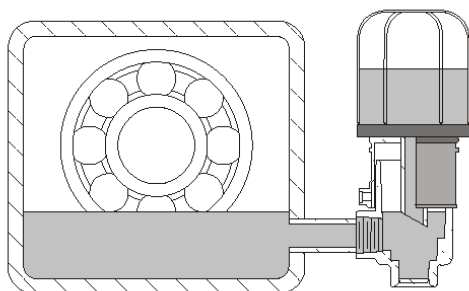

Figure 10. Constant Level Oiler
***Constant Level Oiler.** If equipped with a constant level oiler, fill reservoir with oil, place thumb over spout, invert and screw reservoir into upper casting. Allow reservoir to empty, filling the bearing frame (Figure 10). Several fillings of the reservoir may be required before the actual oil level is reached. To avoid adding too much oil, never finish filling oil in bearing frame (99) through the vent breather (405) at top of the bearing frame. Never use lower casting only as a fill spout, always fill thru reservoir. When oil level is reached, no more oil will run out of the reservoir bottle. Use constant level oiler's glass sight to check oil level in bearing frame. When oil level is reached tighten the three setscrews on the side of the upper oiler. The constant level oiler (143) should be topped up as required during operation.